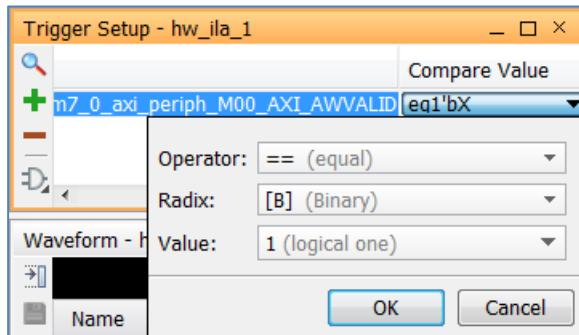

Figure 47: ILA Properties Window
- c. Click the **Compare Value** column of the *WVALID row, as shown in Figure 47.